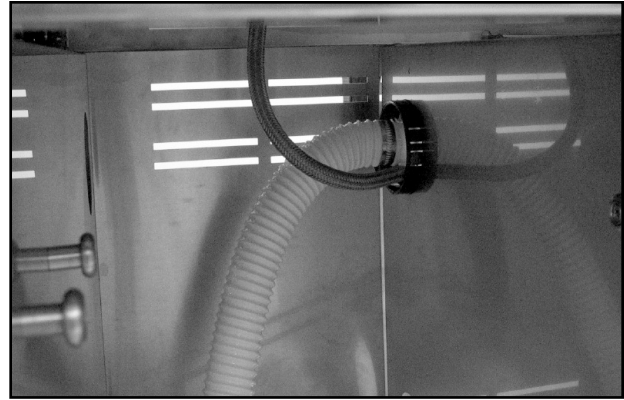
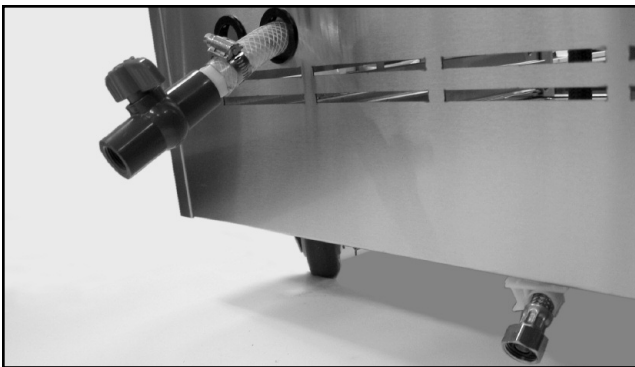

Fig. 49
Fig. 50
10. Feed the water supply hose through the center divider hole, down to the bottom opening of the cart (Fig. 49). Place the end of the water supply hose in the snap-lock clip and lock it in place (Fig. 50).